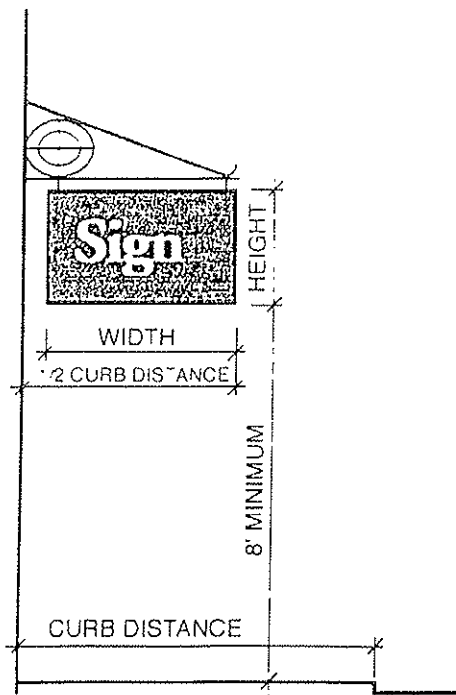

Figure-8
- a. Projecting signs may not project over public property more than 1/2 the distance from the building to the curb, and may not project into a public alley or public parking lot. A sign may not project over the street line. Projecting signs must be a minimum of eight (8) feet above the ground and must be no larger in size than 1 square foot for each linear foot of the side of the building to which the sign is attached, not to exceed 40 square feet per face. (See Figure-8)